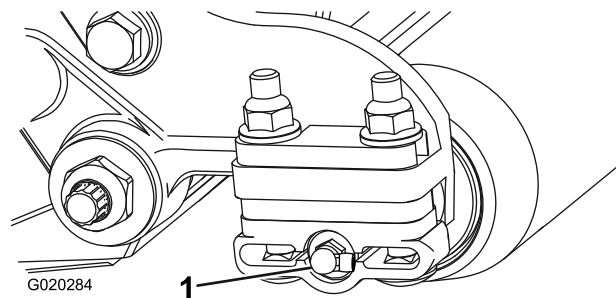

Figure 3
8. Remove the straight grease fitting at the front of the side plate and install the 90° grease fitting in the same spot (Figure 3).